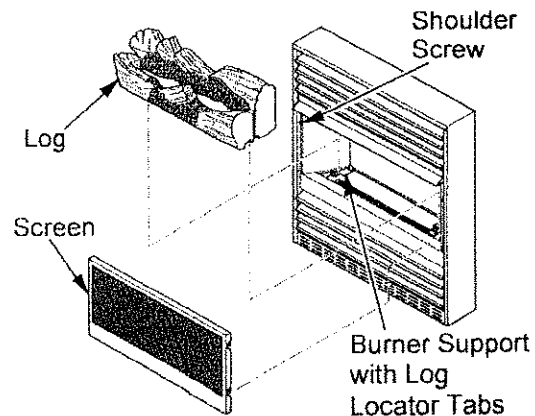

Figure 35 - Installing Log and Screen
1. Remove log packaging material and discard packaging. Gently place log on burner support (see Figure 35). The log should fit flat against top of burner support and log locator tabs fit into the slots under the log. Do not allow log to contact flame. If flame contacts log, soot will be created.